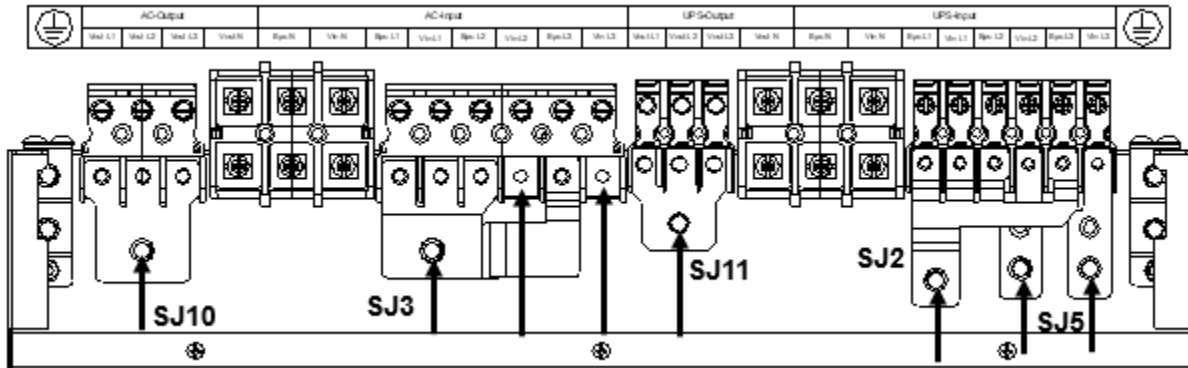

Figure 77: MBS Wiring Connections for a Single Feed with 3-Phase In and Single-Phase Out System [Jumpers = SJ2, SJ3, SJ5, SJ10 and SJ11]
- vi. Connect each wire under the appropriate screw as indicated on the back of the MBS (see the appropriate wire connection diagram in Figures 77 - 80 and bus jumpers in Figure 81). **Note:** Each part of the system must maintain a connected earth ground.